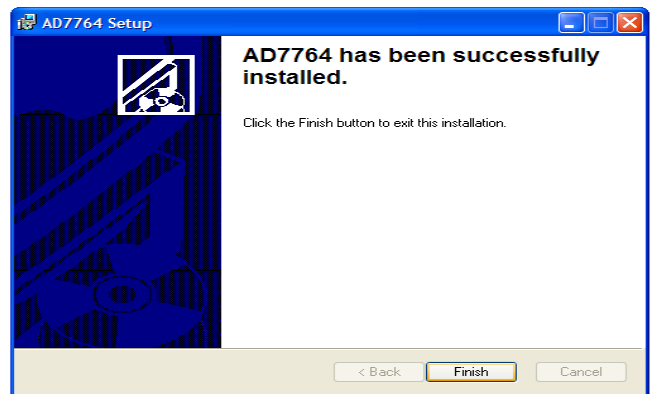

Figure 5. Software Install Completed
5. The installation begins and when finished, the dialog box shown in Figure 5 appears. Click **Finish** to complete the installation.